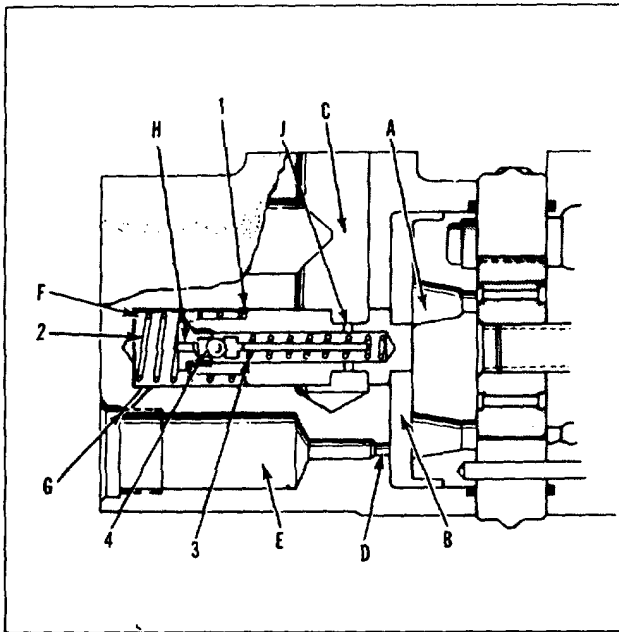

FIGURE 3
1. Maximum fluid delivery and maximum system pressure are determined by the integral flow control and relief valve (Figure 3). The rate of flow depends on the sizes of the restriction, (D) in the cover. Excess oil is